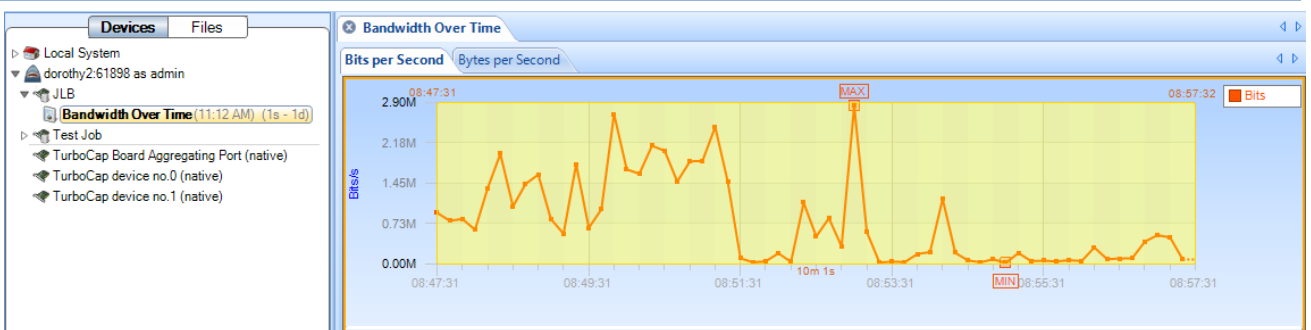
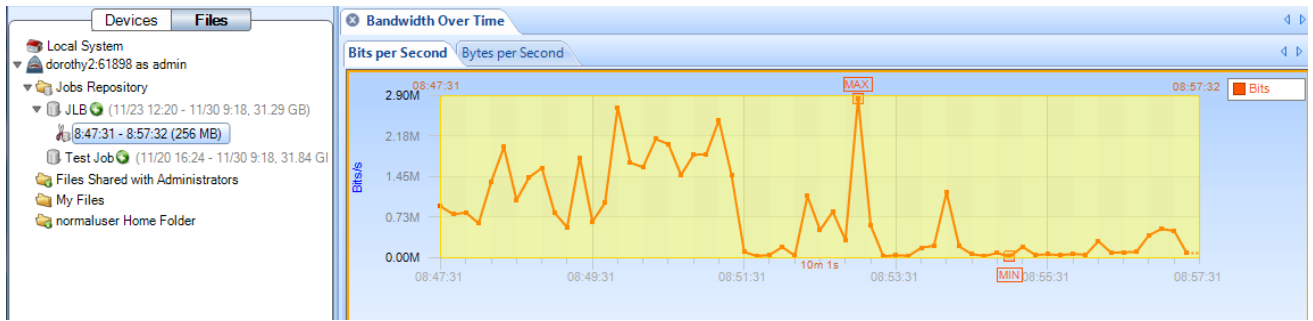
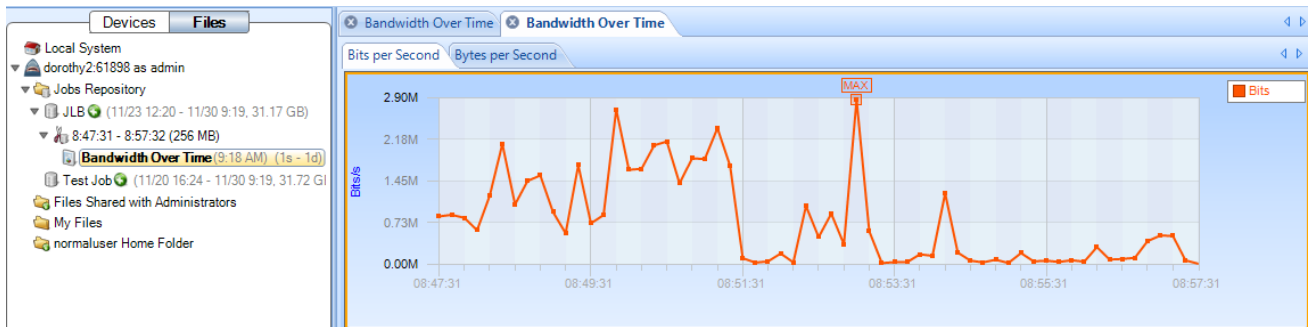

Figure 33: Time Selection in a Strip Chart
Figure 34: Time Selection Dragged Over Job Trace to Create a Trace Clip
Figure 35: View Applied to a Trace Clip
In Figure 33 we show a time selection in a strip chart. The strip chart was obtained by applying the Bandwidth Over Time view to the JLB Job Interface. In Figure 34 we switch from the Devices Panel to the Files Panel where we see the corresponding JLB Job Trace. The trace clip was created by clicking and dragging the selected time interval (in the strip chart) over the Job Trace. This automatically created the Trace Clip shown below the JLB Job Trace. Notice that the Job Trace is over 30GB, but the Trace Clip is only 256MB.
In Figure 35 we have applied the Bandwidth Over Time view to the Trace Clip below JLB. Notice the similarity to the view in Figure 34.
*Note:* It is important to note that the view in Figure 34 has been obtained through the analysis of a live source while the view and Figure 35 was obtained by applying the same analysis to the packets saved in the Trace Clip. Trace Clips have all of the properties of ordinary trace files and can be analyzed using all of the capabilities of CACE Pilot.